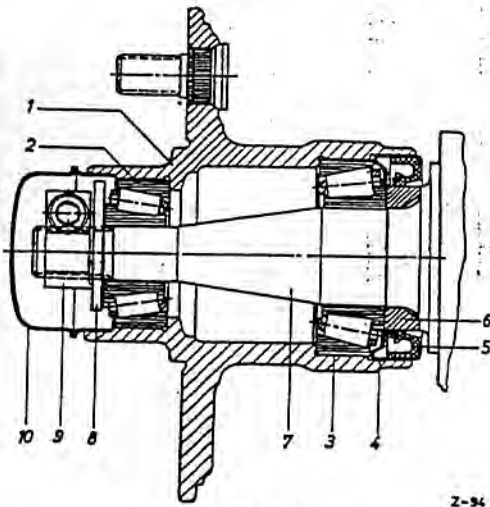

Fig. 33-5/4
**Note:** In the case of the 1st version front wheel bearings (annular taper roller bearing with millimeter measurements) a spacer ring (6) is pressed on the wheel spindle and its contact surface for the seal (5) is provided with a reverse thread pattern (Fig. 33-5/4).